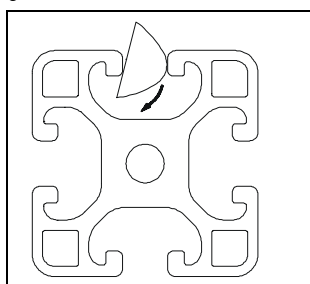

Figure 8: Fitting T-Slot Nut Into Groove
11. See Figure 8. Fit (swivel and insert) three T-slot nuts into the groove of each side beam. Adjust the location of the T-slot nuts according to the three holes in each door hinge.